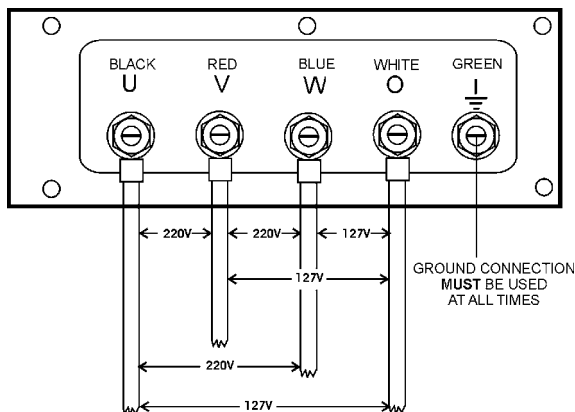

Figure 23. Output Terminal Lugs 3Ø 220/127V Three Phase Connections
2. Connect the load wires to the **Output Terminal Lugs** as shown in Figure 23.